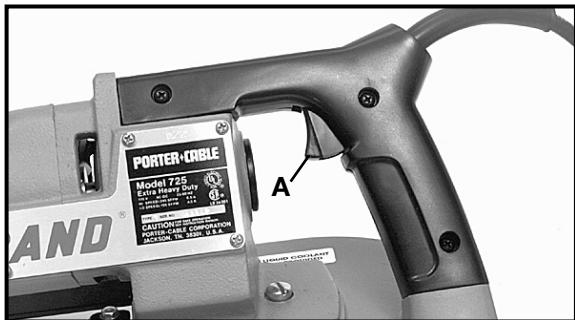

Fig. 1
2. Squeeze trigger switch (A), Fig. 1, to start motor. Release trigger to stop motor.